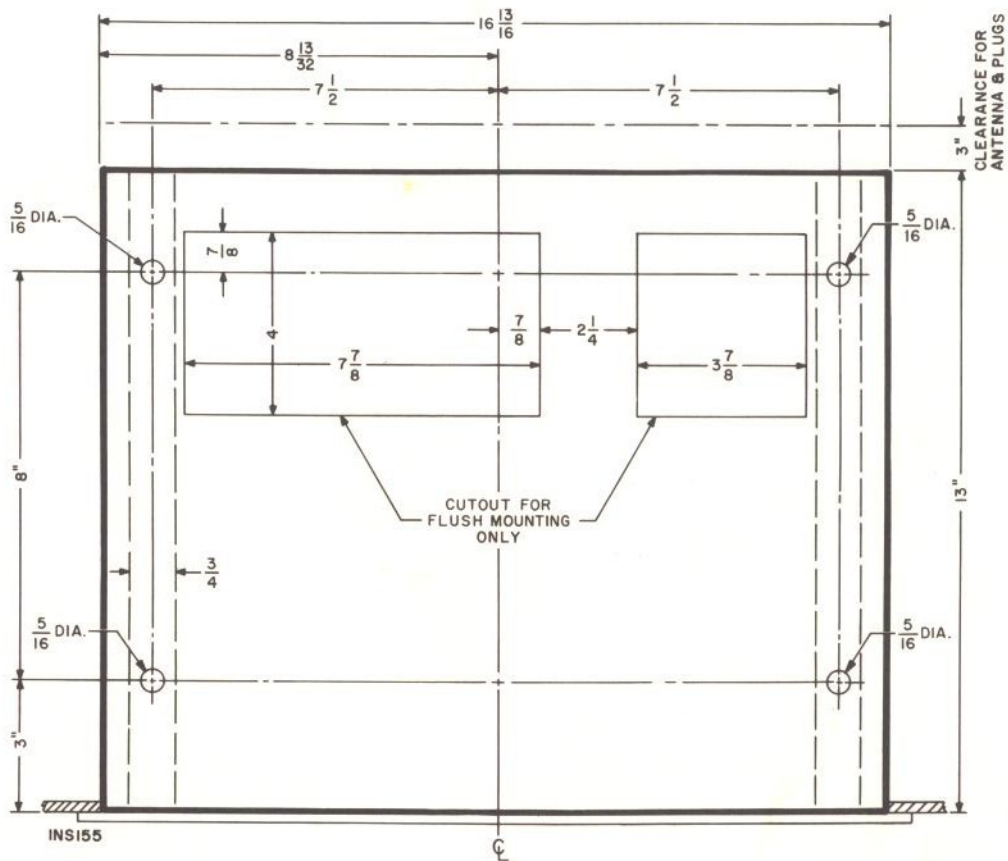

FIGURE 3. Top view of custom installation.
- 2 — Fasten the two cleats to the top of the mounting board with wood screws in the position shown in Figure 3. Screw heads should be flush with the top of the cleats. Then locate and drill four  $\frac{5}{16}$ -inch holes through the mounting board and cleats as indicated.
If the height of the custom cabinet will not permit you to mount the 800-C by means of cleats, as described in the preceding section, the chassis may be mounted directly on the cabinet shelf. If the chassis is mounted in this way, however, it is essential that cutouts be made in the shelf as shown in Figure 3, and that the back of the cabinet remain completely open, in order to provide proper ventilation. For a flush-mounted installation, proceed as follows:
1—Locate and drill the four 5/16-inch holes in the bottom shelf of the custom cabinet as indicated in Figure 3.
2—Saw cutouts in the bottom shelf following the outlines shown in Figure 3. It is absolutely essential that these cutouts be made as indicated so that the necessary ventilation will be supplied to the 800-C chassis.